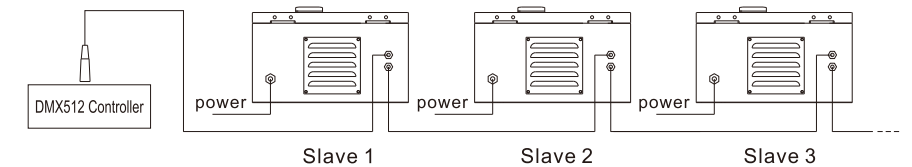

Fig. 2
- ① If you need Master/Slaves to change color synchronously, please set all of slaves as "001";
- ② If you need Master/Slaves to change color in sequence, please set first slave machine as "006", the second one as "011" and so on (add "5" one after another).
(3) The connection of DMX Signal Control Mode (See Fig. 2):